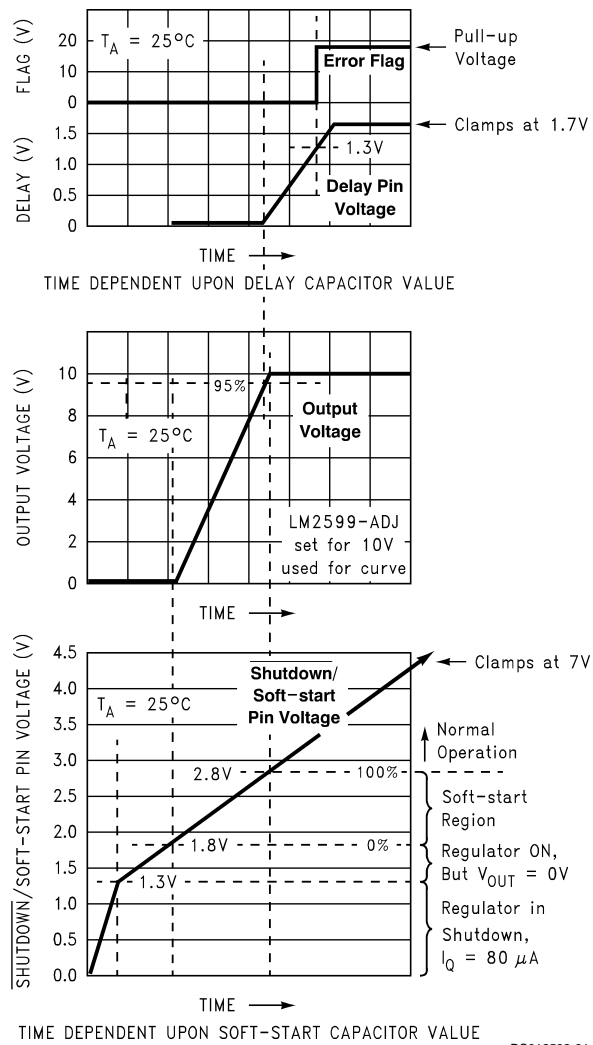
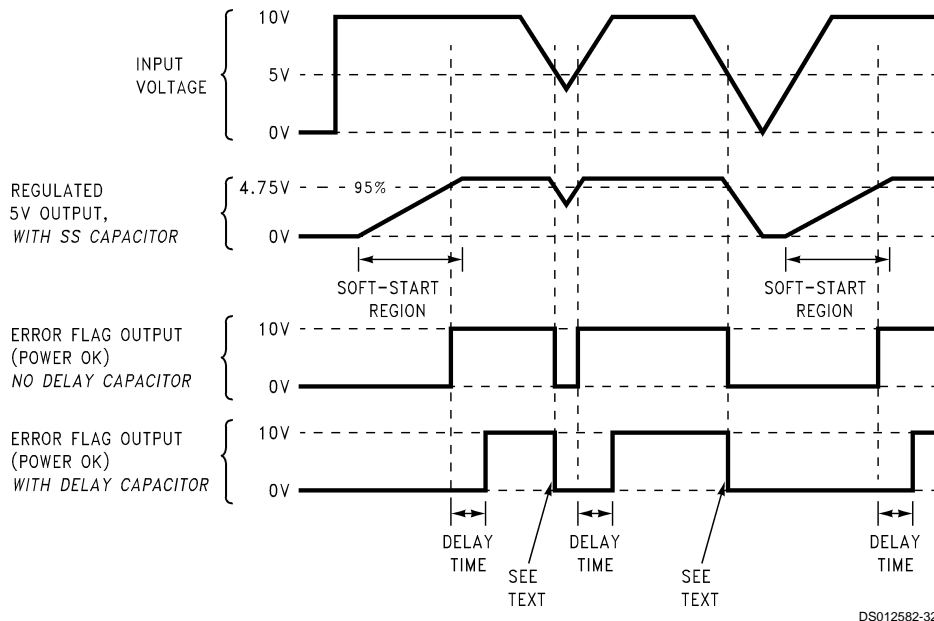

FIGURE 13. Soft-start, Delay, Error, Output
FIGURE 14. Timing Diagram for 5V Output
C_{SS} —A capacitor on this pin provides the regulator with a Soft-start feature (slow start-up). When the DC input voltage is first applied to the regulator, or when the Shutdown /Soft-start pin is allowed to go high, a constant current (approximately $5 \mu A$) begins charging this capacitor). As the capacitor voltage rises, the regulator goes through four operating regions (See the bottom curve in Figure 13).
3. Soft-start Region. When the \overline{SD} /SS pin voltage is between 1.8V and 2.8V (@ 25°C), the regulator is in a Soft-start condition. The switch (Pin 2) duty cycle initially starts out very low, with narrow pulses and gradually get wider as the capacitor \overline{SD} /SS pin ramps up towards 2.8V. As the duty cycle increases, the output voltage also increases at a controlled ramp up. See the center curve in Figure 13. The input supply current requirement also starts out at a low level for
Note: The lower curve shown in Figure 13 shows the Soft-start region from 0% to 100%. This is not the duty cycle percentage, but the output voltage percentage. Also, the Soft-start voltage range has a negative temperature coefficient associated with it. See the Soft-start curve in the electrical characteristics section.
C_{DELAY} — Provides delay for the error flag output. See the upper curve in *Figure 13*, and also refer to timing diagrams in *Figure 14*. A capacitor on this pin provides a time delay between the time the regulated output voltage (when it is increasing in value) reaches 95% of the nominal output voltage, and the time the error flag output goes high. A 3 μ A constant current from the delay pin charges the delay capacitor resulting in a voltage ramp. When this voltage reaches a threshold of approximately 1.3V, the open collector error flag output (or power OK) goes high. This signal can be used to indicate that the regulated output has reached the correct voltage and has stabilized.